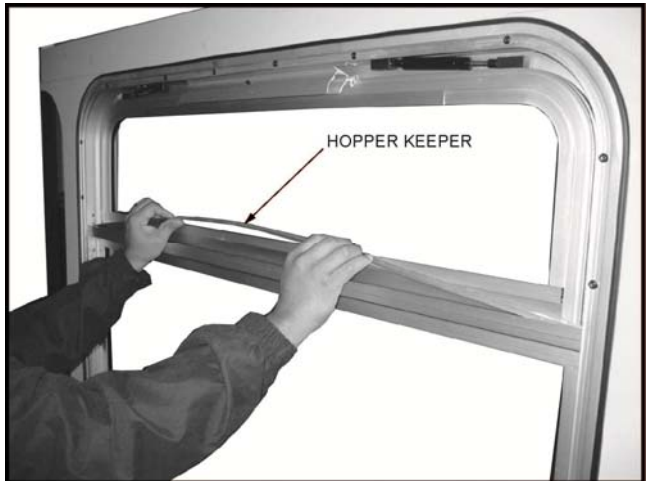

FIGURE 3-27: HOPPER KEEPER
- 2) Refer to **Figure 3-27**. Close Hopper Window and install Hopper Keeper.